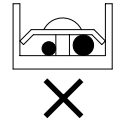

Fig. 7
- When connecting wire of the same diameter, make the connection as shown in the figure 7.